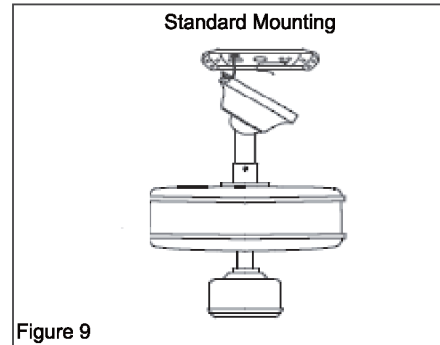

Figure 9
4. Carefully lift the fan assembly up to the ceiling mounting plate and hang the fan on the hook provided by utilizing one of the holes at the outer rim of the ceiling canopy (Fig. 9).
WARNING: THE HOOK AS SHOWN IN FIG. 9 IS ONLY TO BALANCE FAN WHILE ATTACHING WIRING. FAILURE TO HANG AS SHOWN IN FIG. 9 MAY RESULT IN HOOK BREAKING CAUSING THE FAN TO FALL. HOOK MUST PASS FROM INSIDE TO OUTSIDE OF CANOPY.